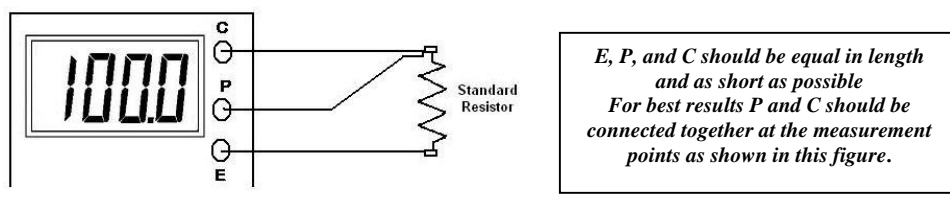

Figure 1
- All three test leads should be of equal length. **C** and **P** lead connections should be made at the standard resistors. This Source/Since method will reduce the lead resistance error in the measurement. See Figure 1 below.
- Connect the standard resistors to the unit under test as described in Figure 1.
Connect the 61-796 to the standard resistors as described in the performance test section, Figure 1.